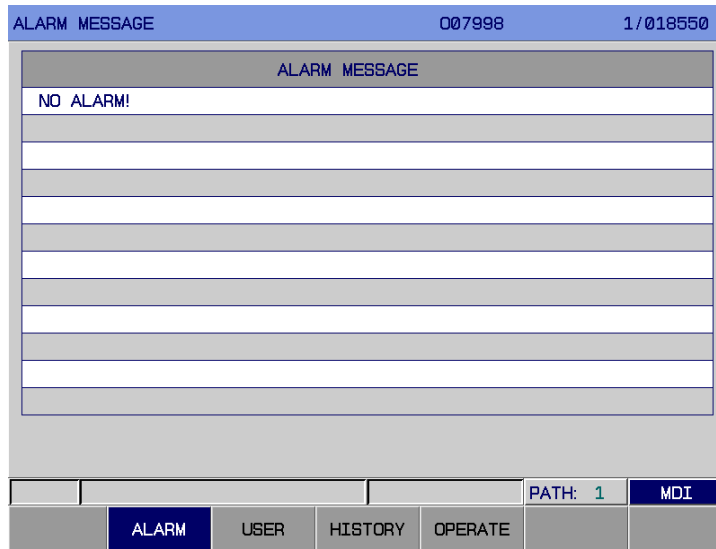
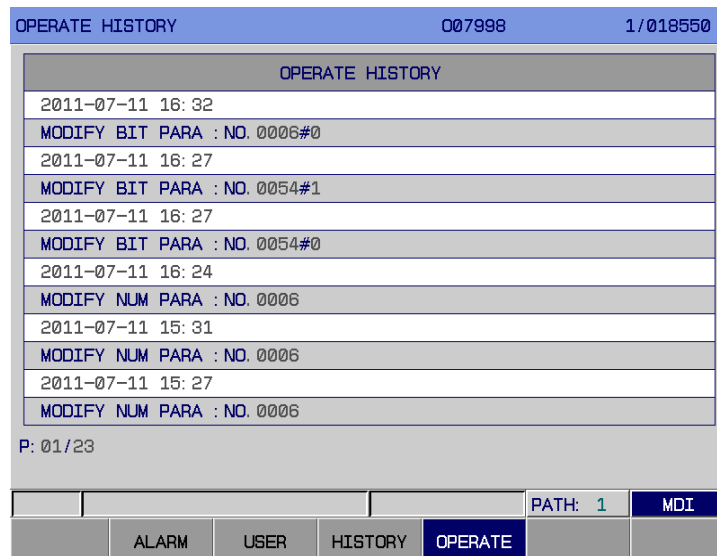

Fig. 3-7-1
Fig. 3-7-4
**ALARM** to display the alarm page. There are 4 subpages: **ALARM**, **USER**, **HISTORY** and **OPERATE**, all of which can be viewed by the corresponding soft keys (See Fig.3-7-1 to Fig.3-7-4). Whether the page is switched to alarm page when an alarm occurs can also be set by bit parameter No: 24#6.
1. Alarm page In <ALARM> page, press soft key **【ALARM】** to enter this page, as is shown in fig.3-7-1.
4. OPERATE page In <ALARM> page, press soft key 【OPERATE】 to enter this page, as is shown in Fig. 3-7-4: